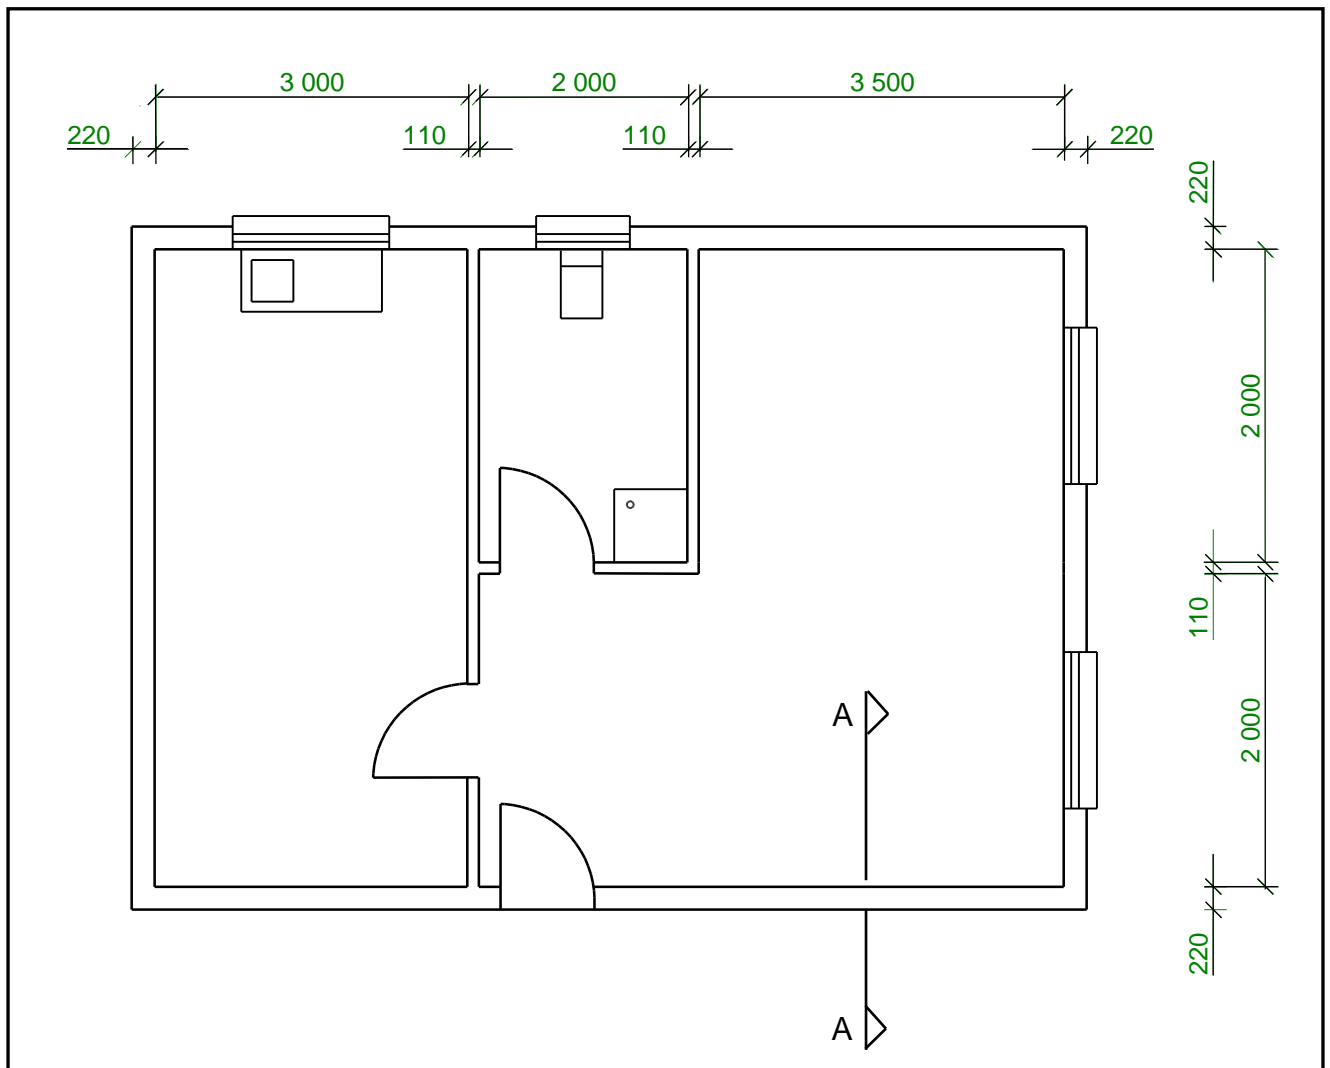

FIGURE 6.2
- 6.2 FIGURE 6.2 below shows the floor plan of a site office with a gable roof with open eaves.